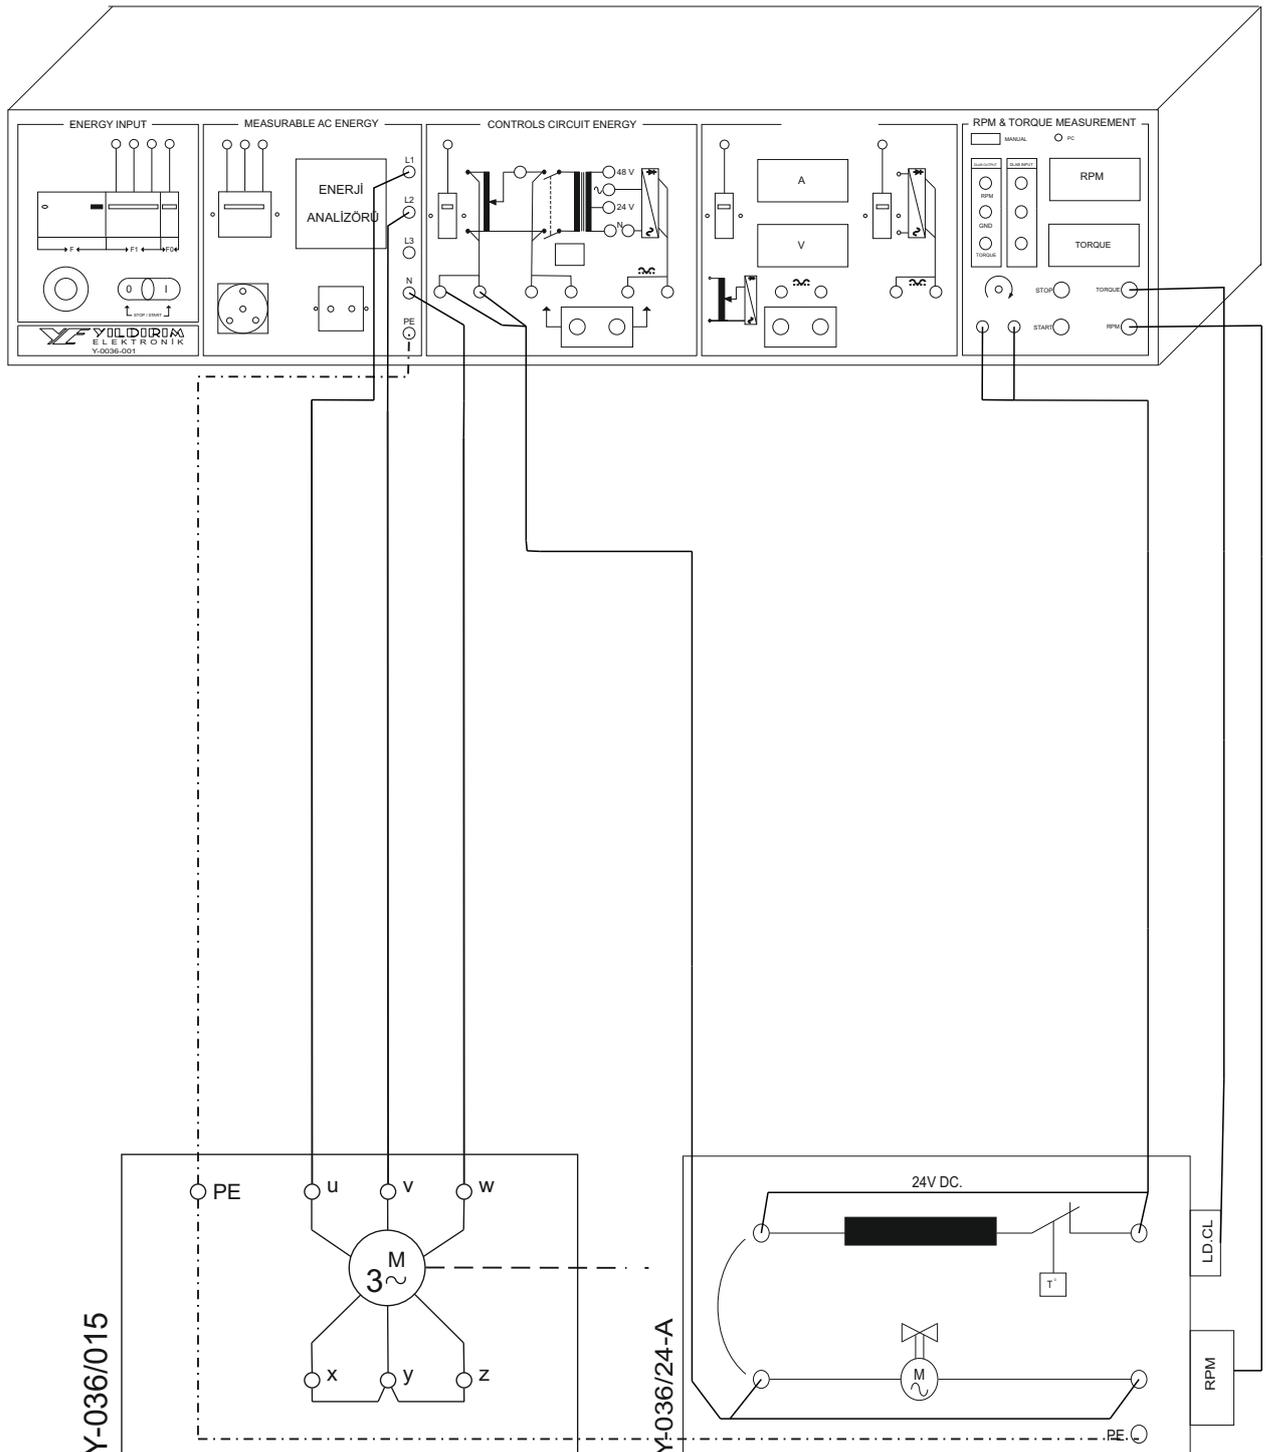

Figure 34.1: Connection diagram for the loaded operation of the tri-phase asynchronous motor
- Connect the circuit shown in the figure 34.1, 34.2